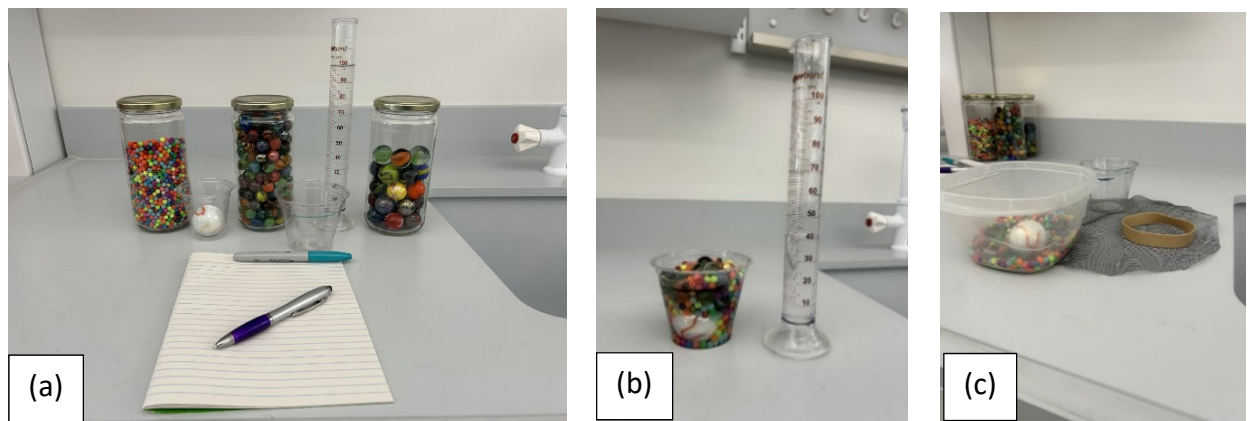

Fig.2. (a) Materials used in the activity. (b) Example cup filled with marbles. (c) Clean-up suggestion.
2. Divide students into groups of 3-4 individuals and assign each group a number. Group members are assigned roles: (1) constructor, (2) equipment manager and (3) recorder.
3. Explain the concept of porosity (for instance, using Fig. 1 as the motivation and Fig. 2 as a schematic to clarify the concept). Point out that porosity does not depend on the marble sizes in themselves, but more on how they pack together. Direct the recorder in each group to make notes about the ratio of marble/bead sizes chosen to pack their container. This information will be used to compare volume differences and determine how the ratio of sizes played a role.